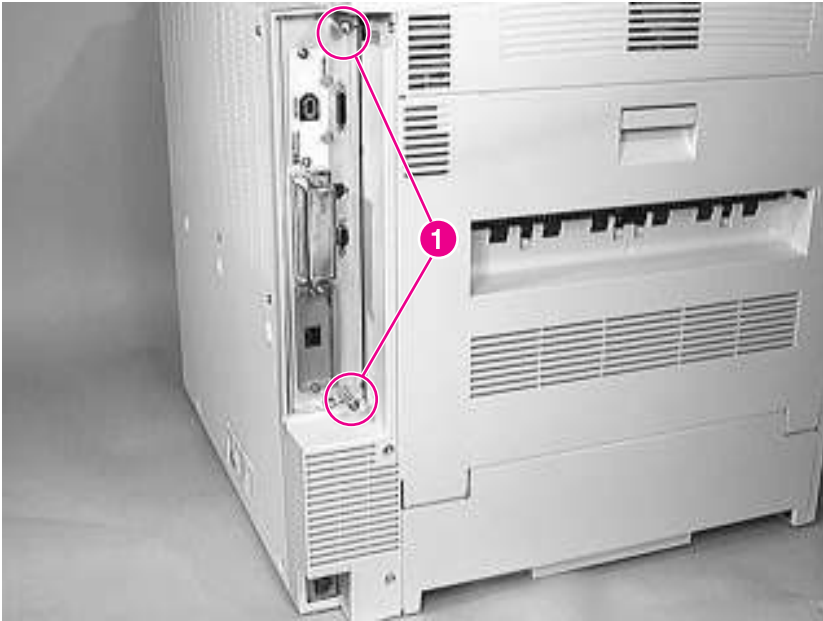

Figure 6-33 **Formatter Assembly**
- 2** Loosen the two captive screws (figure 6-33, callout 1), and slide the Formatter PCA out of the chassis.
- 1 Remove the Formatter Assembly (see figure 6-33 on page 197).
- Formatter Assembly (see figure 6-33 on page 197)